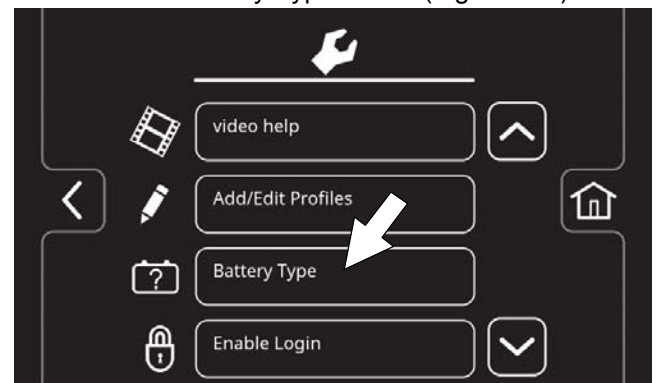

FIG. 128
- Press the Battery Type button (Figure 128).